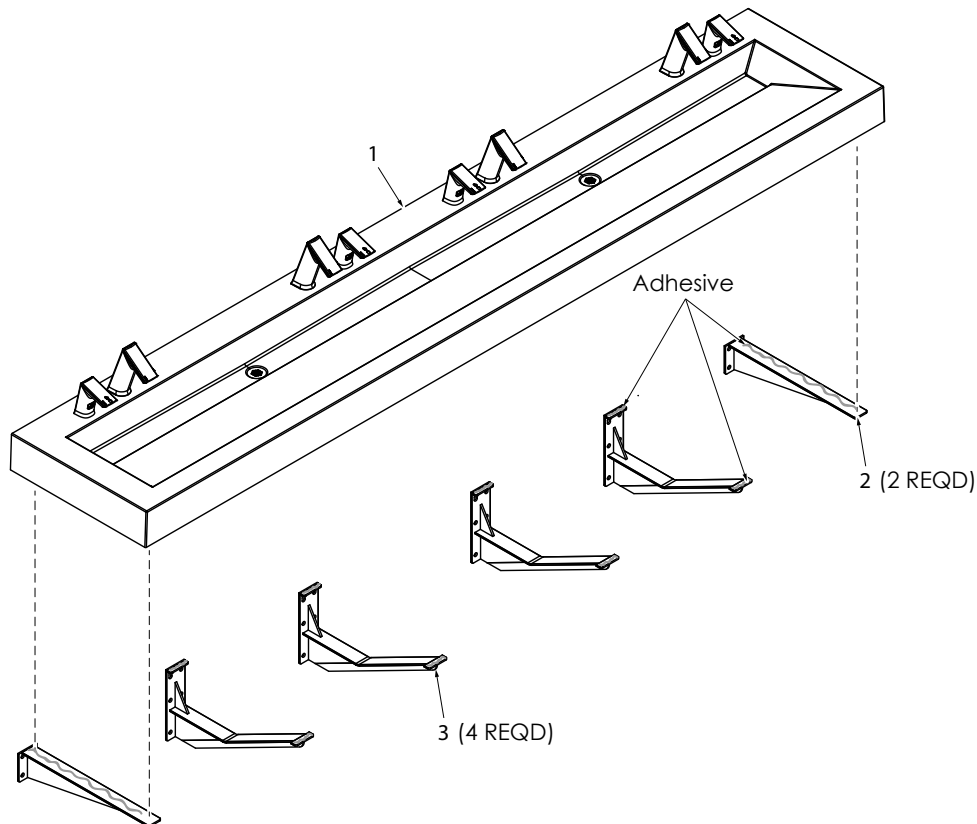

Figure 27
6. Install Deck (1, Figure 27) onto Side Brackets (2) and Middle Brackets (3).